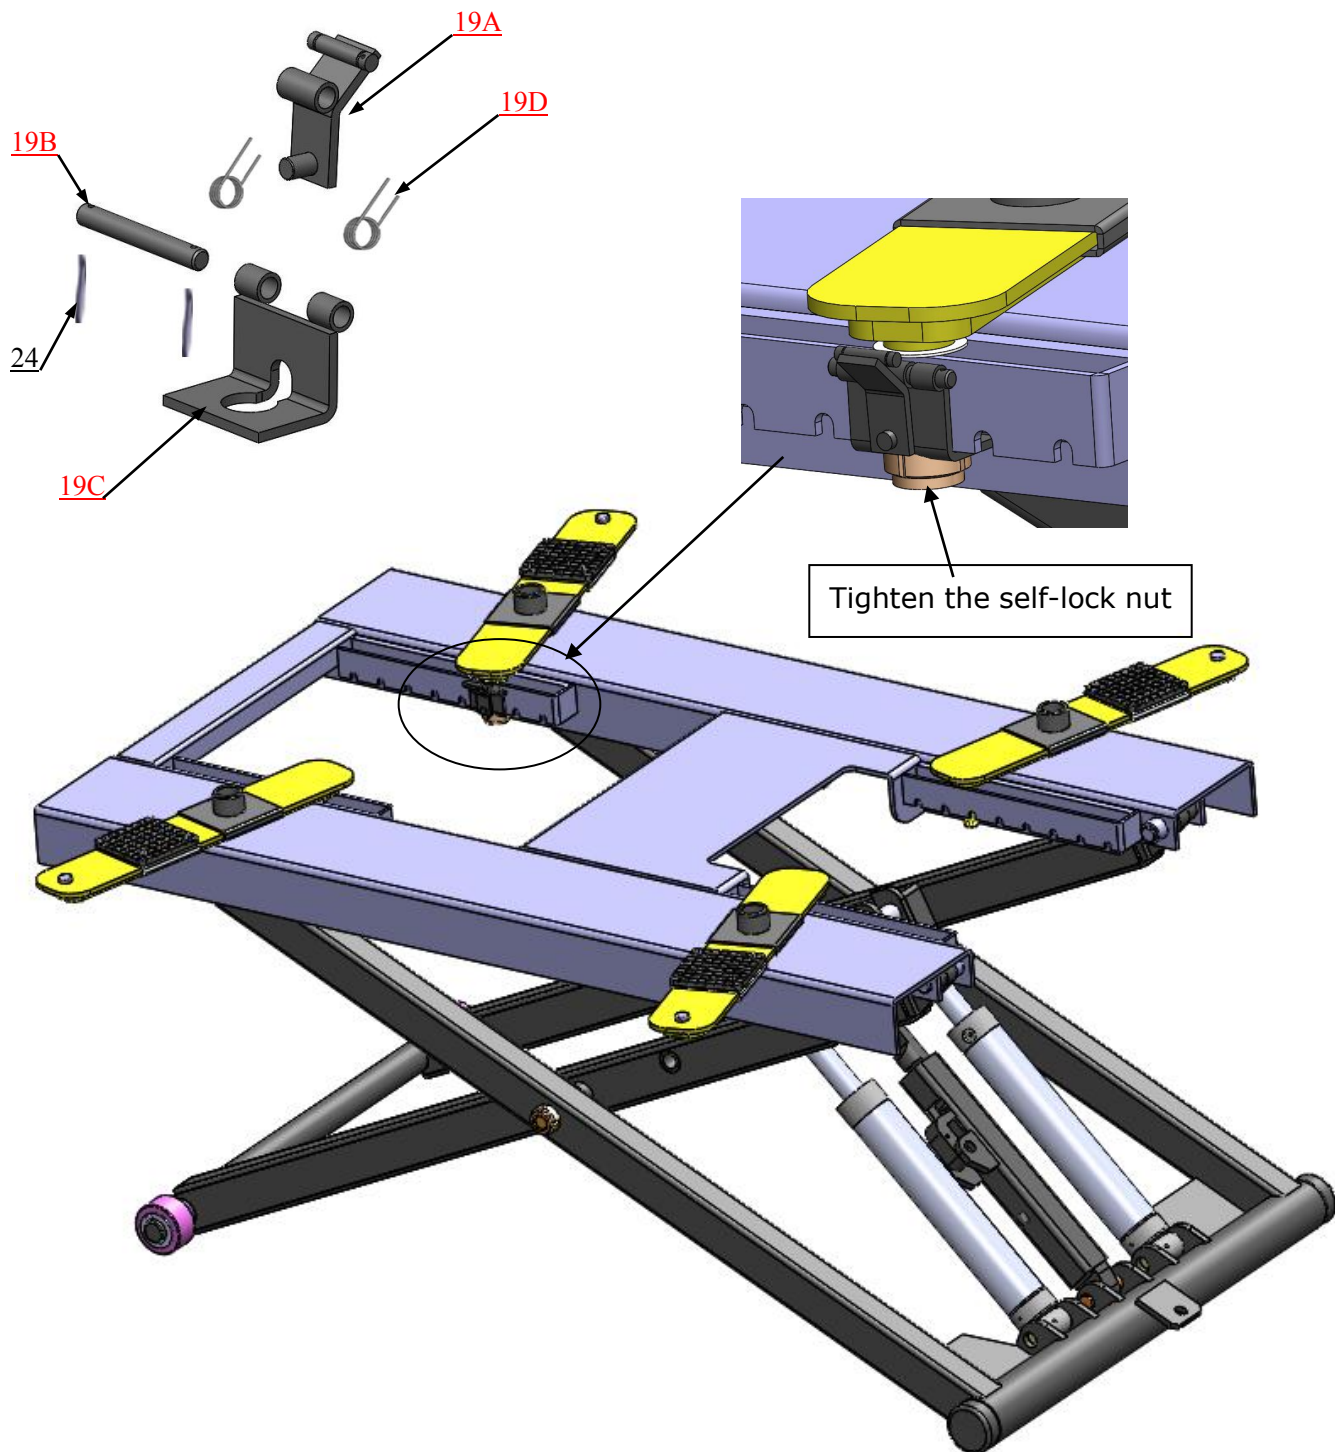

Fig. 11
1. Raise the lift up to 39-3/8" and lock the safety device, then tighten the self-lock nut .(See Fig. 11)